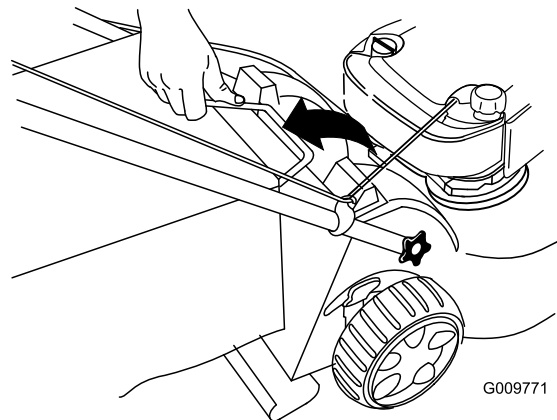

Figure 25
2. Lift the grass bag handle out from the grooves at the top of the mower and remove the bag from the mower (Figure 25).